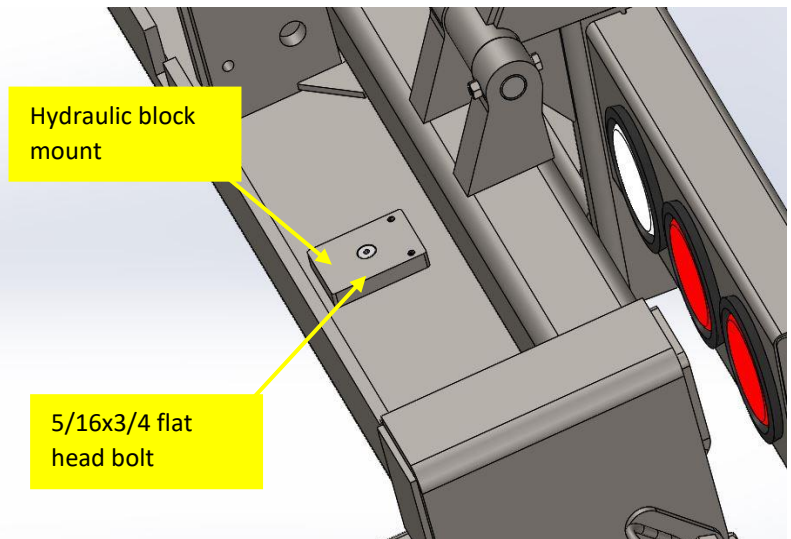

Figure 7
4. Place the hydraulic block mount (**ITEM 15**) on the bracket with the locating hole on the underside of the mount lined up with the locating pin on the bracket. Insure that the threaded holes in the hydraulic block mount are facing toward the front of the vehicle. Use the 5/16x3/4 flat head bolt (**ITEM 27**) to fasten the mount to the welded bracket. **Figure 7**